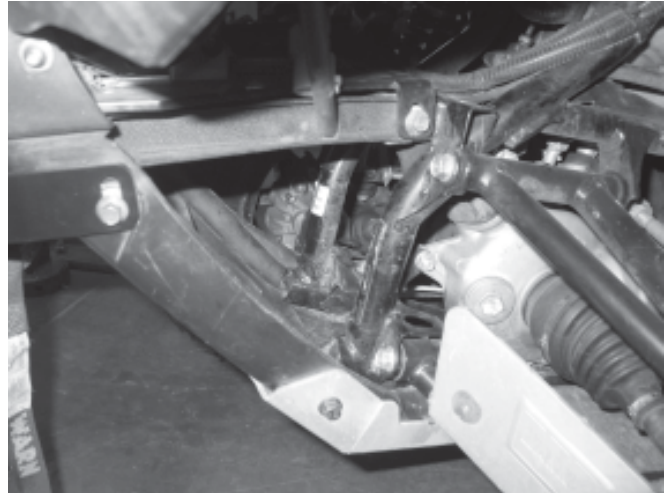

Figure 1
1. Figure 1 shows pocket behind front plastic fascia where front plow mount will be installed. The front plow mount can be installed along with existing winch mount and body armor kits.